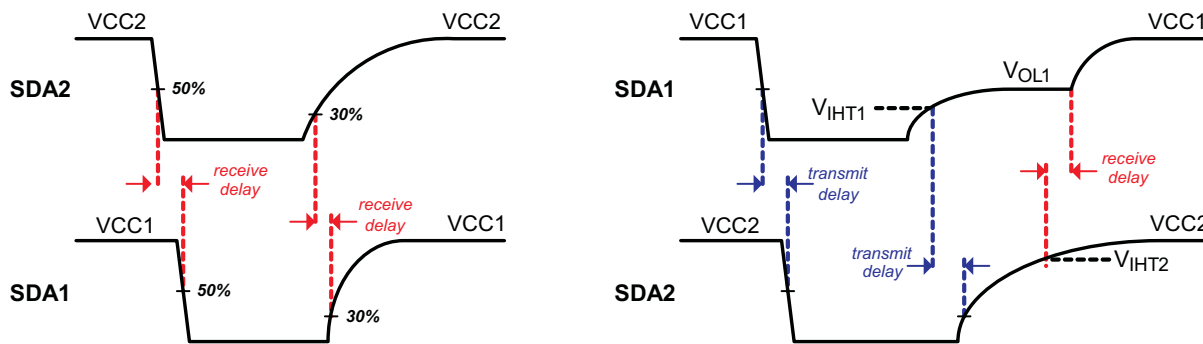

Figure 29. SDA Channel Timing in Receive and Transmit Directions
Figure 29 demonstrate the switching behavior of the I²C isolator, ISO1540, between a master node at SDA1 and a heavy loaded bus at SDA2.
10.1.2.1 Receive Direction (Left Diagram of Figure 29)
10.1.2.2 Transmit Direction (Right Diagram of Figure 29)